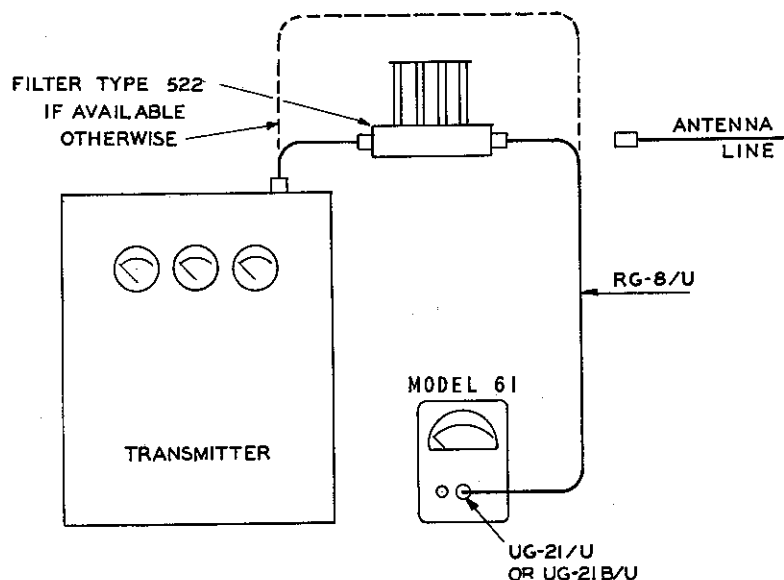

Fig. 4-1. Typical Connections to Transmitter
- c. With the TRANSMITTER OFF, disconnect the antenna line and connect the wattmeter as shown in Fig. 4-1.
(1) The wattmeter is a broad band instrument and its action with presence of harmonics or other spurious frequencies should be considered.
(2) Wattmeter sensitivity decreases with frequency above 500 mc and below 1400 mc. Laboratory and field experience indicate that low order harmonics in this range do not appear to be serious sources of error. However, to avoid measurement error and interference troubles it is highly desirable to eliminate all frequencies except the carrier desired. Such filters as have been provided for interference control should be installed when employing the wattmeter as shown in Fig. 4-1, 4-2, 4-3.
(3) Above 1400 mc, two sensitivity peaks are present in the wattmeter sensitivity curve. These are approximately 1700 and 2600 mc where resonances occur in